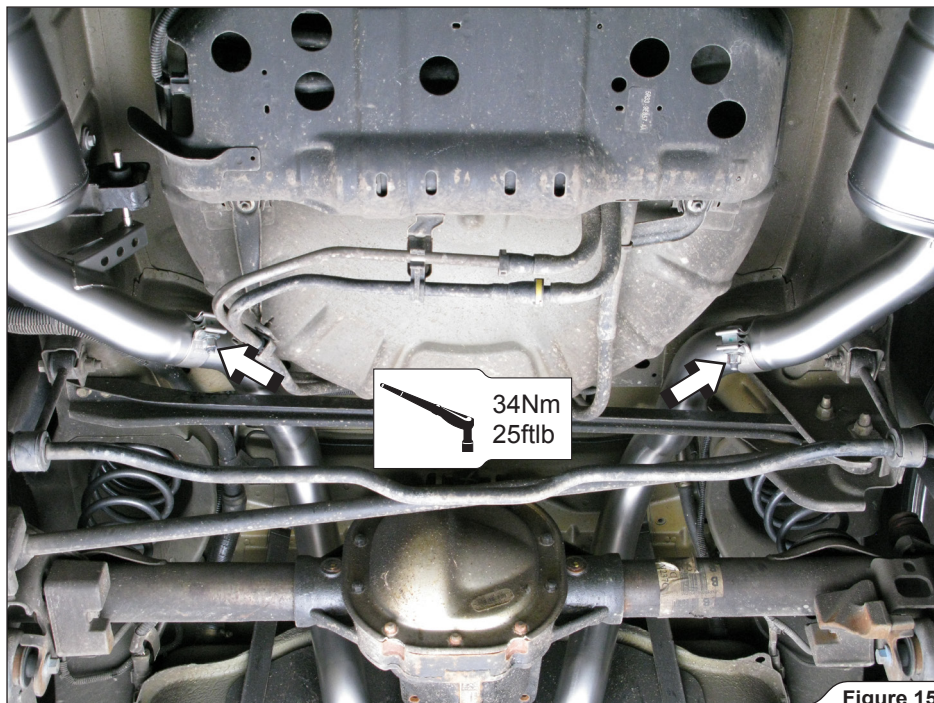

Figure 15
9. **For Slip-On and Evolution:** slide the mufflers' inlet bushes all the way onto the middle pipes, align them in respect to the vehicle and tighten the marked clamps to a specified torque (**Figure 15**).